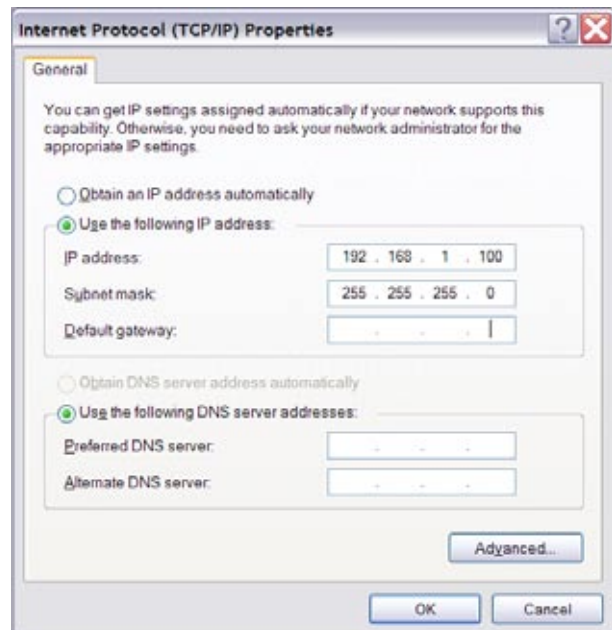

Figure 4.3
3. Select "Use the following IP address" and enter a desired address. (Figure 4.3).
In most cases, no further configuration of the PC will be necessary. Because the default setting in Windows is to "Obtain an IP address automatically", the network connection will be established by the DHCP server. However, if the PC has been previously set to obtain a specific address, you may need to access the "Internet Protocol (TCP/IP) Properties" window and select the "Obtain an IP address automatically" option (Figure 4.3).